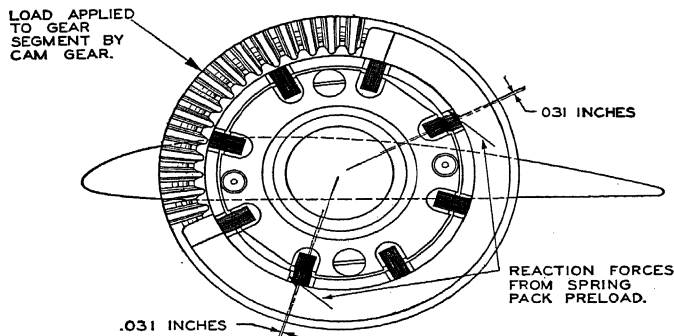

Fig. 33.—Diagram showing gear-segment preloading.
**Blade and Gear Segment Assembly.**—1. Check the blade bushings to be sure that they are properly installed in the blades. Although the blade bushing appears symmetrical about its central axis, actually two of the spring pack slots are offset in order to preload the gear teeth (Fig. 33). For this reason, there is only one angular position in which the bushing may be installed for a given type of propeller. The same blade bushing may be